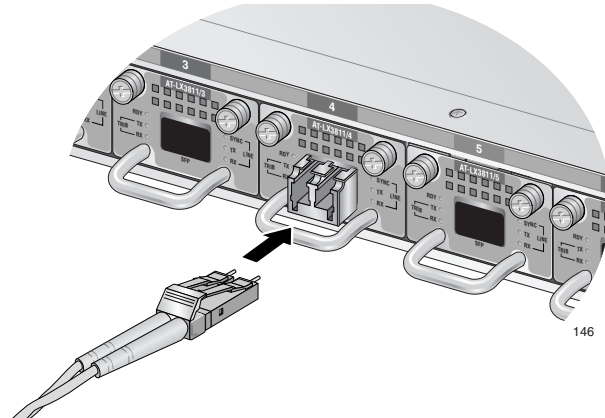

Figure 32. Connecting a Fiber Optic Cable to the SFP
2. Connect the fiber optic cable to the SFP, as shown in Figure 32.